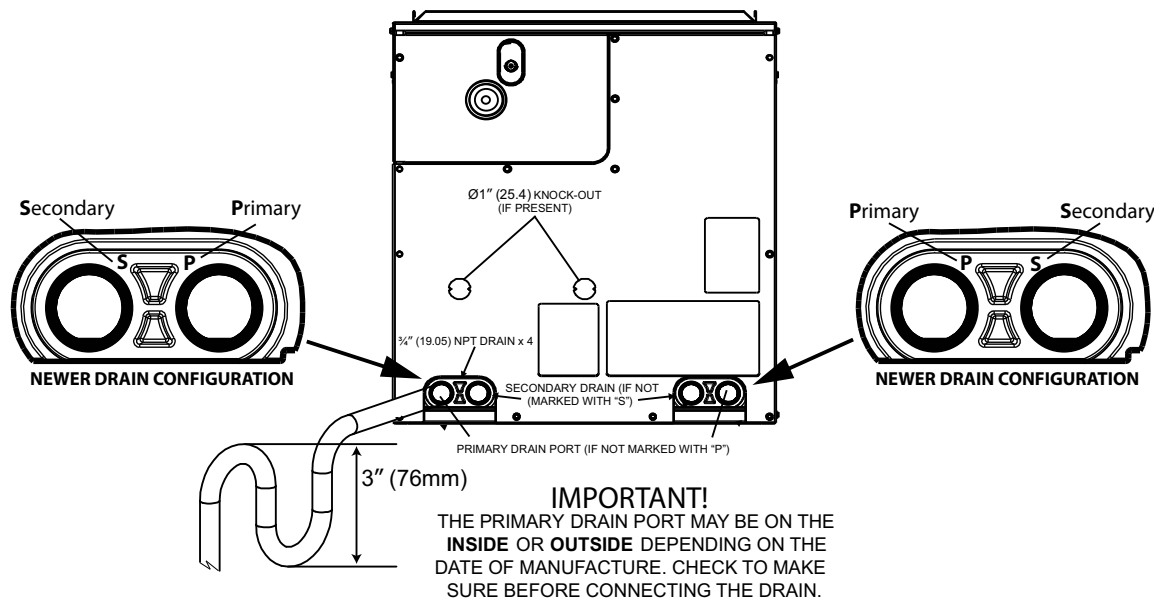

Fig. 8 – Condensate Trap and Drain
**IMPORTANT:** Depending on the date of manufacture, the unit's primary and secondary drains may be reversed from what you are accustomed to. Please check carefully before connecting the drain. Refer to Fig. 8.
- Make trap at least 3 inches (76 mm) deep and no higher than the bottom of unit condensate drain opening (Fig. 8).